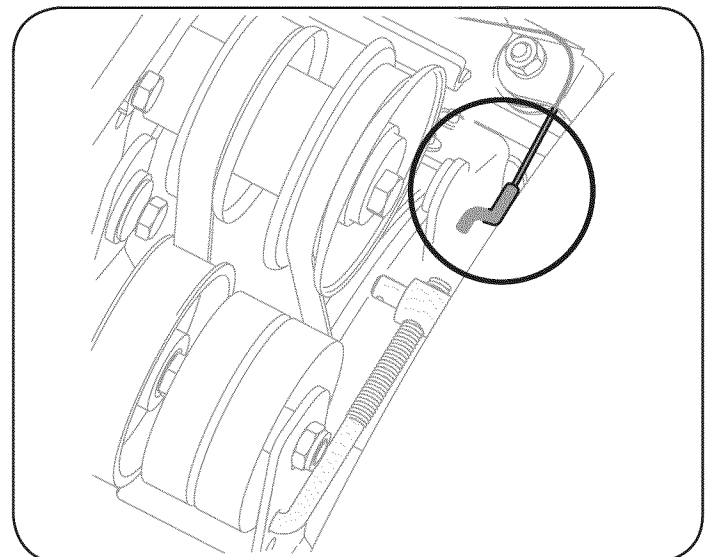

Figure 27
3. Pull the brake bracket assembly towards the cable guide roller and unhook the auger cable "Z" fitting. See Figure 27.